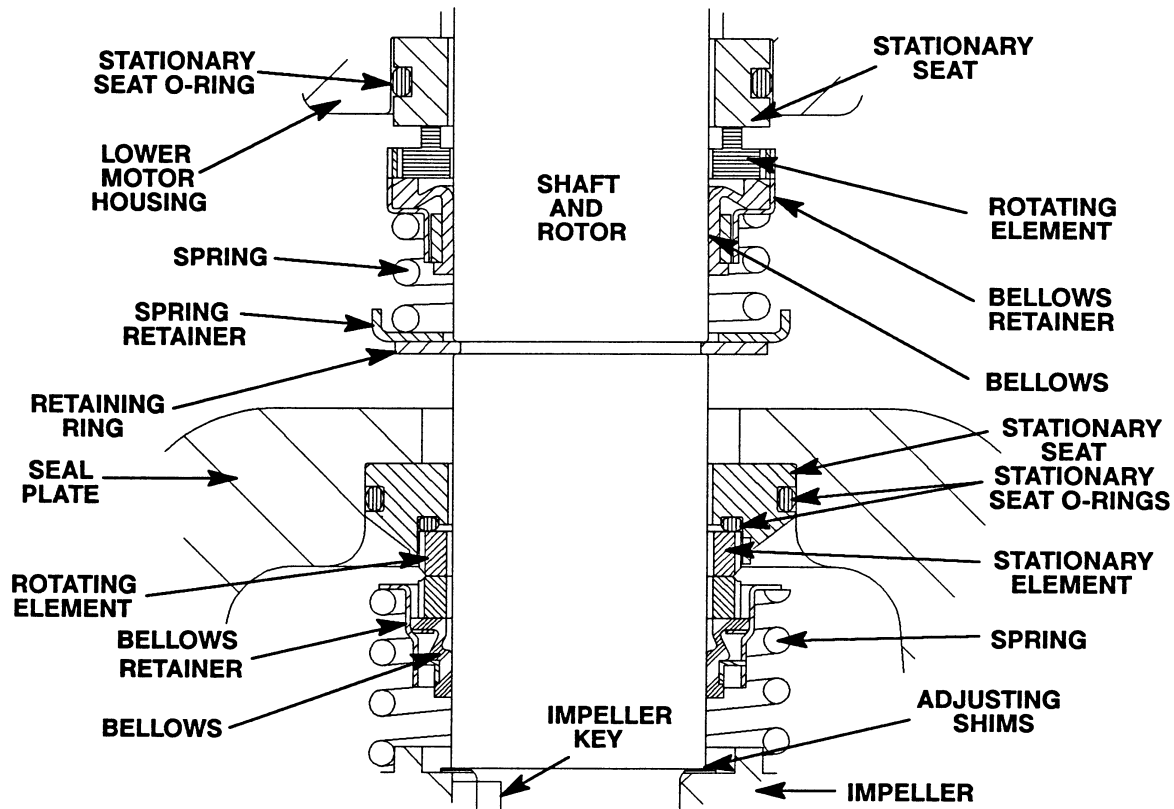

Figure 4. 46512-076 (Lower) And 25271-886 (Upper) Seal Assemblies
Install the shaft seals as illustrated in Figure 4.
Slide the seal spring over the shaft and bellows retainer, and install the spring retainer (20). Install the seal retaining ring (19). See Figure 4 for proper order of seal assembly.
Unpack the stationary seat, and check that the O-rings are properly installed (see Figure 4). Press the stationary element into the seat, making sure that the grooves in the element engage the lugs on the seat. Apply a **light** coating of oil to the seal plate bore and the outer O-ring. Keep the sealing face dry.
Slide the seal spring over the shaft and bellows retainer. See Figure 4 for proper order of seal assembly.